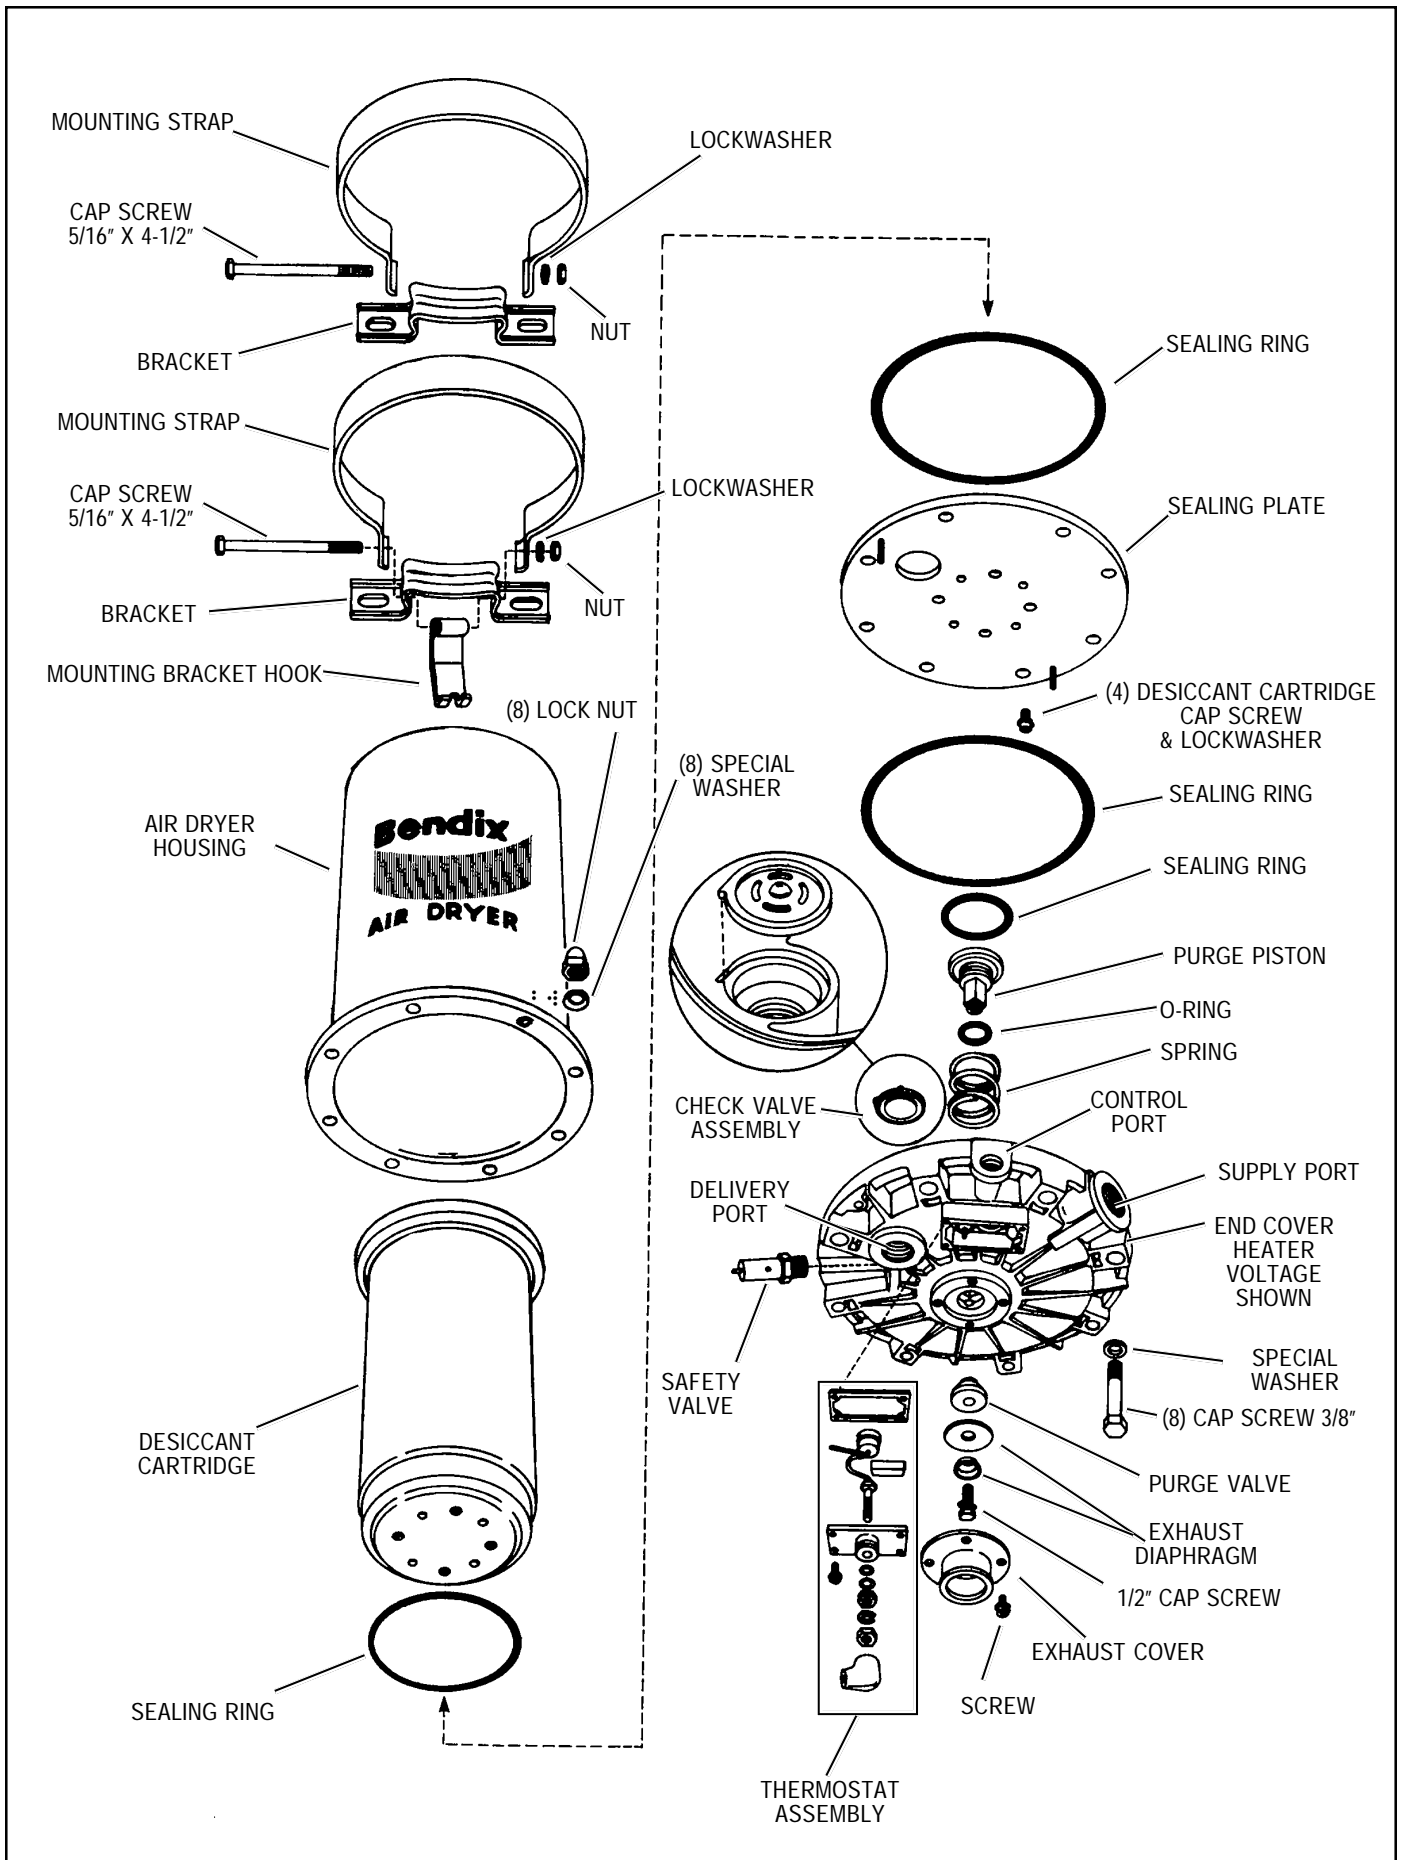

FIGURE 6 - AD-4™ AIR DRYER ASSEMBLY
bracket hook from the end cover (Refer to Figure 6.)
The following disassembly and assembly procedure is presented for reference purposes and presupposes that a major rebuild of the AD-4™ air dryer is being undertaken. Several replacement parts and maintenance kits are available which do not require full disassembly. The instructions provided with these parts and kits should be followed in lieu of the instructions presented here. Refer to Figure 6 during disassembly.
**Important Note: The single exception to prelubrication is the sealing ring between the desiccant cartridge and sealing plate. Refer to step number 8 for proper installation of this sealing ring. Refer to Figure 6 during assembly unless otherwise advised.**